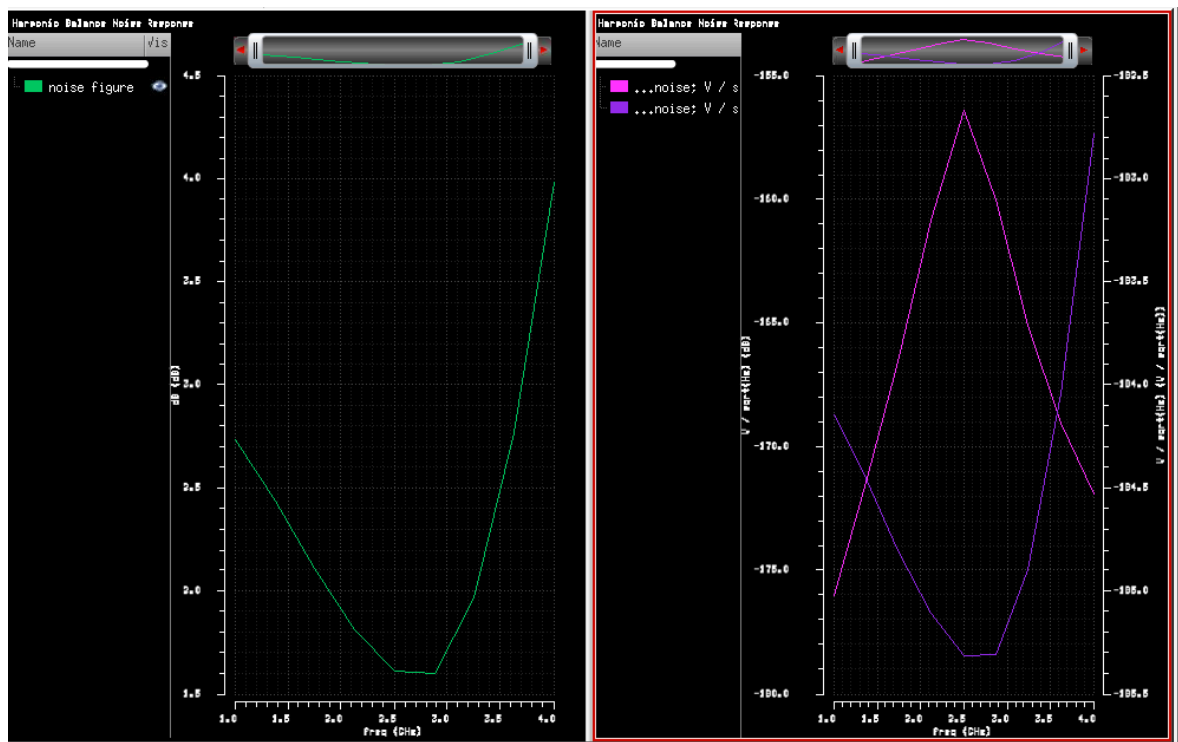

Fig. 9. NF, Input and Output Noise using *hbnoise* Analysis
- Click on the *Plot* Button and confirm that the results are similar to Fig. 9.